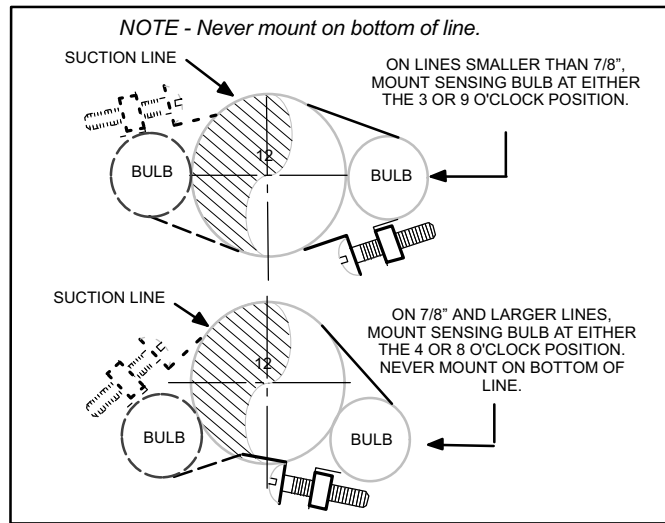

Figure 7. TXV Sensing Bulb Installation
5. Attach the sensing bulb of the TXV in the proper orientation as illustrated in figure 7 to the suction line using the clamp and screws provided.